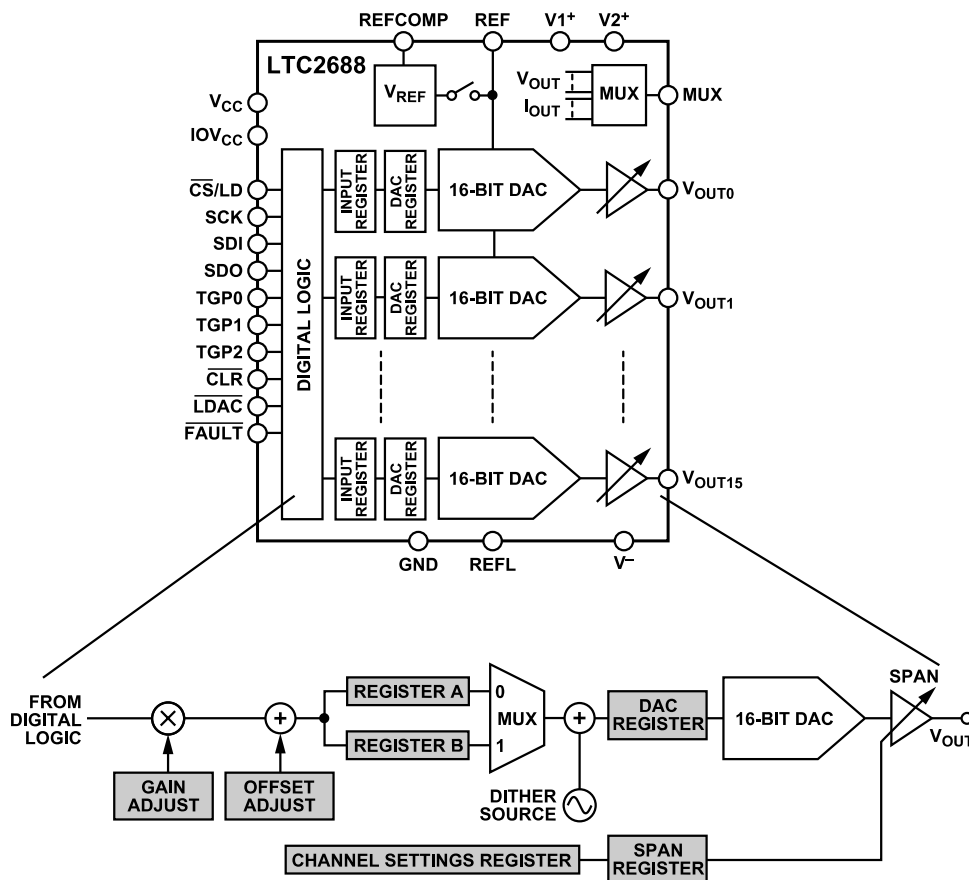

Figure 42. Block Diagram
- **Input register:** the write operation shifts data from the SDI pin into a chosen input register. The input registers are holding buffers. Write operations do not affect the DAC outputs directly. In the code data path there are two input registers, A and B, for each DAC register. Input Register B is an alternate input register used only in toggle and dither operation, whereas Input Register A is the default input register (see Figure 42).
- **DAC register:** the update operation copies the contents of an input register to its associated DAC register. The content of a DAC register directly controls the DAC output voltage or range. The update operation also powers up the selected DAC if it was in power-down mode. The data path and registers are shown in Figure 42. Updates always refresh both code and span data, but the values held in the DAC registers remain unchanged unless the associated input register values have been changed via a write operation. For example, writing a new code and updating the channel updates the code, but the span is unchanged. A channel update can come from a serial update command, an LDAC negative pulse, or a toggle operation.